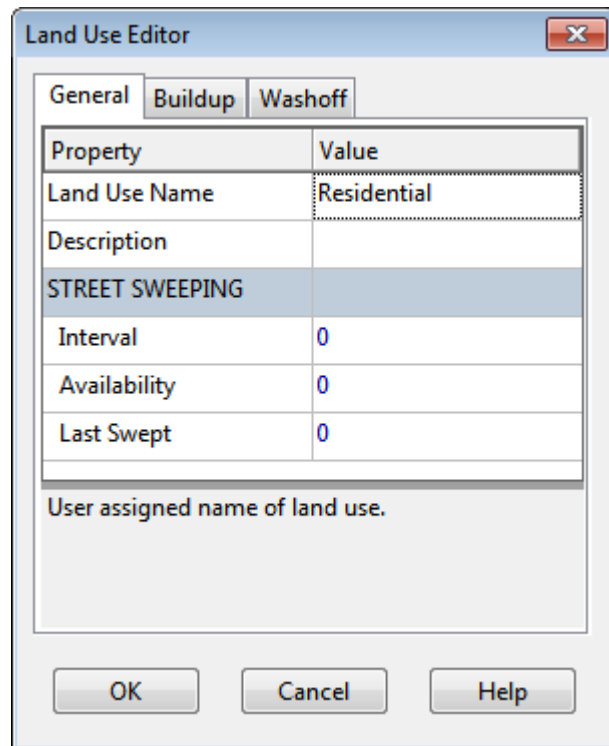

Figure 2-20 Land use editor dialog
2. In the Land Use Editor dialog that appears (see Figure 2-20), enter **Residential** in the Name field and then click the **OK** button.